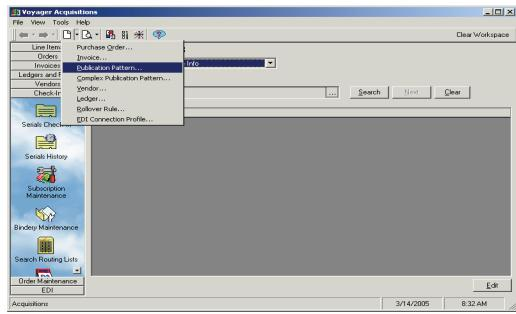

Figure 8-37. New Item button selected on the toolbar - list displayed
- Select **Check-In** from the **View** menu and then select **New Publication Pattern** from the cascading menu (see Figure 8-37).